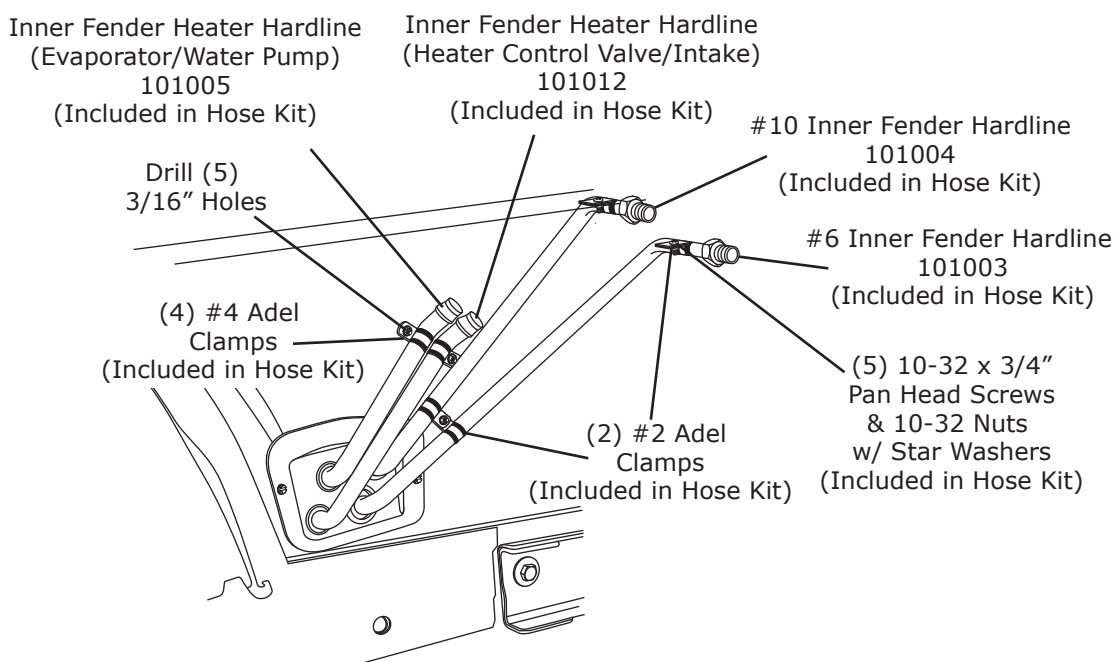

Figure 12b
4. Install hardlines in inner fender cap as shown in Figure 12b, below.
5. Install Adel clamps onto hardlines as shown in Figure 12b, below.
6. Using Adel clamps as a guide, drill (5) 3/16" holes in inner fender. Secure Adel clamps and hardlines to inner fender using (5) 10-32 x 3/4" pan head screws and (5) 10-32 nuts with star washers as shown in Figure 12b, below.